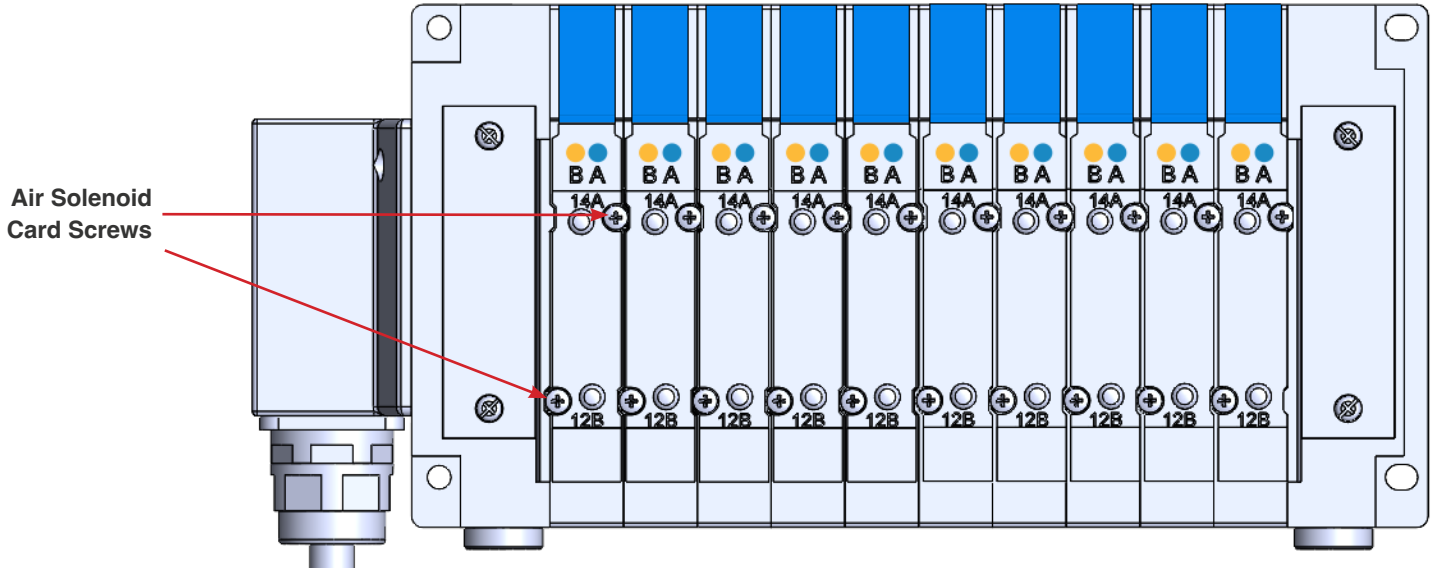

Fig. 7.5 - 1 - Air solenoid card replacement
2. Remove the two screws from the desired card (Fig. 7.5 - 1, following page).